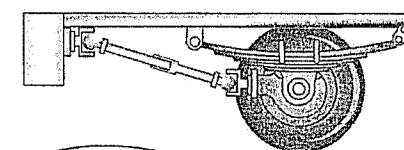

Fig. 4 Schematic Diagram of Rear Wheel Drive System
1. What type of universal joint (万向节) is used in Figure 4? What are the conditions for their constant speed transmission (等速传动)? (5 marks)
答: 1. 图4中的是十字轴式万向节, 它等速传动的条件是: